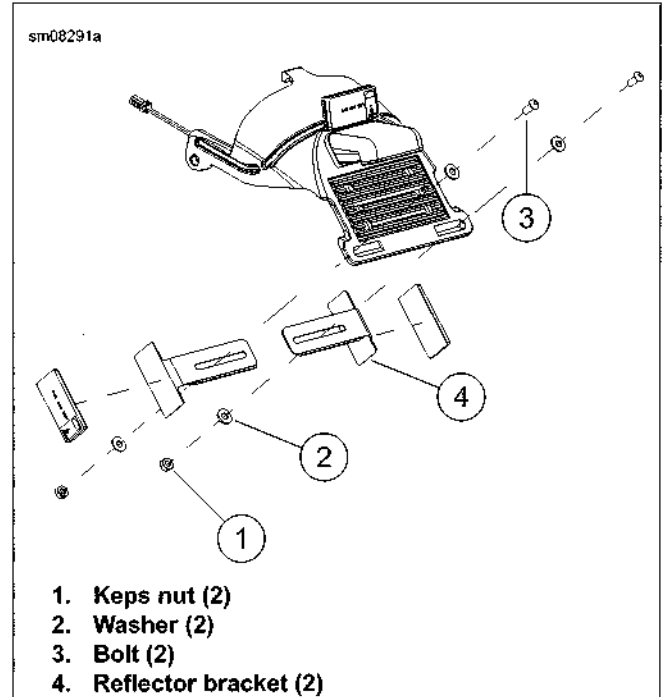

Figure 6-59. License Plate and Reflector Brackets
See Figure 6-59. Remove the Keps nuts (1), washers (2) and bolts (3). Remove the side reflector brackets (4).
See Figure 6-59. Assemble the side reflector brackets (4) to the license plate assembly with the bolts (3), washers (2) and Keps nuts (1). Tighten to 10-15 in-lbs (1.2-1.7 Nm).